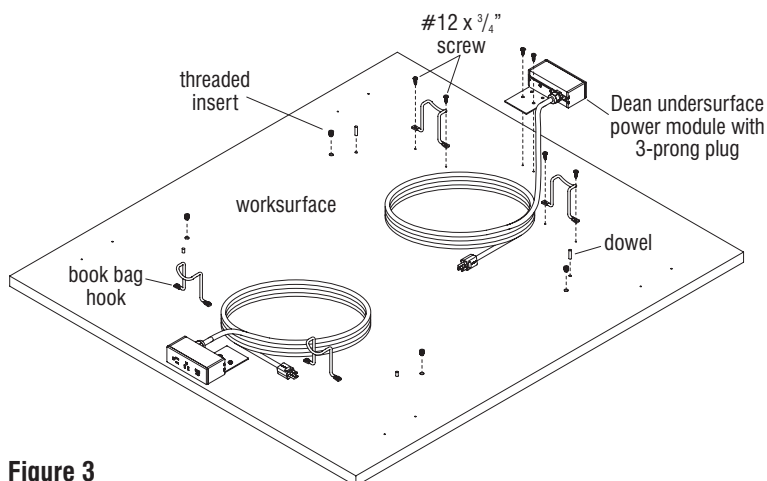

Figure 3
1. Carefully place the worksurface upside down on a soft, protective surface (Figure 3).
2. Locate the four dowel hole locations at the underside of the worksurface. One at a time, position a nylon dowel over each hole and gently tap the dowel in until it bottoms-out in the hole, leaving $\frac{1}{2}$ " of each dowel protruding. **DO NOT** force the dowel to go deeper into the worksurface or damage will occur (Figure 3 & Detail E).
3. If the table being assembled has a wood butcher block worksurface the threaded inserts must be installed. Locate the four threaded insert hole locations at the underside of the worksurface near the dowel locations. One at a time, secure a threaded insert to the worksurface using a 6 mm allen key (Figure 3 & Detail E).
1. If the Ruckus worktable being assembled requires the installation of optional book bag hooks, position the book bag hook as illustrated, over the pre-drilled mounting hole locations on the underside of the worksurface so the loop faces to the worksurface edge, then secure using two #12 x $\frac{3}{4}$ " Phillips reverse serrated screws. Take care to not over-tighten the screws. Repeat this process to secure the remaining hooks to the worksurface (Figure 3 & Detail F).
1. If the Ruckus worktable being assembled will receive power, align the mounting holes of the Dean undersurface power module with the pre-drilled mounting holes on the underside of the worksurface. Secure the power module to the worksurface using two #12 x $\frac{3}{4}$ " Phillips reverse serrated screws. Take care to not over tighten. Repeat this process to secure the remaining power modules (Figure 3 & Detail G).